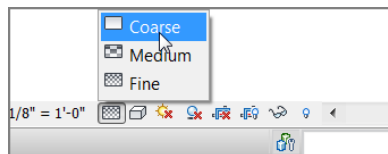

FIGURE 2.17: Sometimes, setting the graphic display to Coarse can make the placement of other walls easier.
6. On the View toolbar, set the detail level to Coarse, as shown in Figure 2.17.